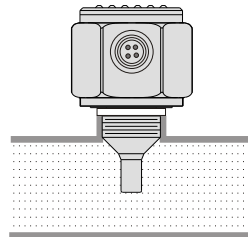

Fig. 2
- (2).Please assure that there is no air bubble in the tube to achieve reliable alarm action. (See Fig. 2).